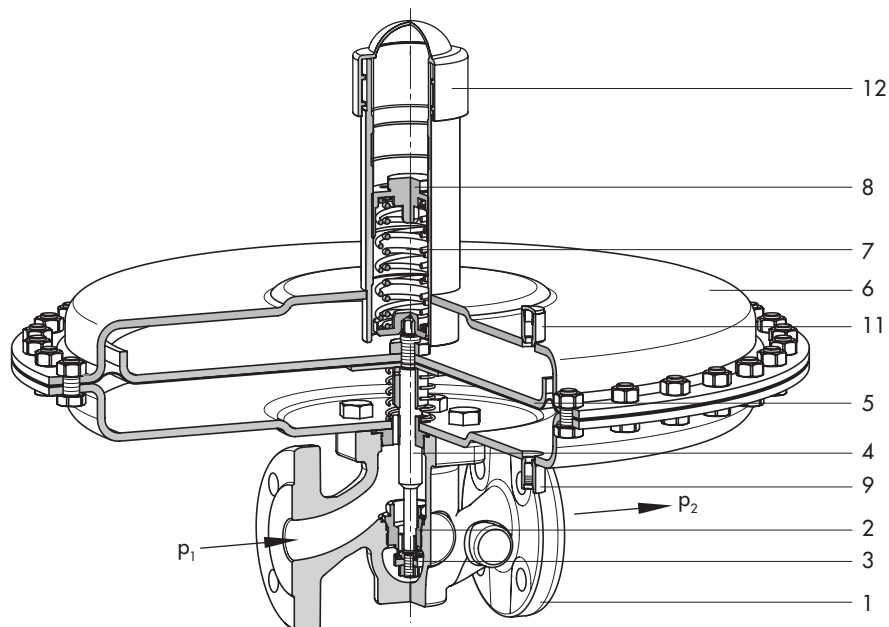

Fig. 3: Type 2405 Pressure Reducing Valve **without** pressure balancing · C_v 2 to 5 · Flow-to-open
– Pressure reducing valve with proportional control action (see Fig. 3)